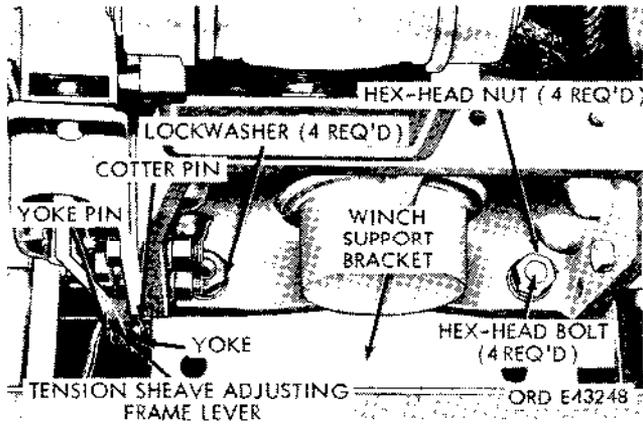
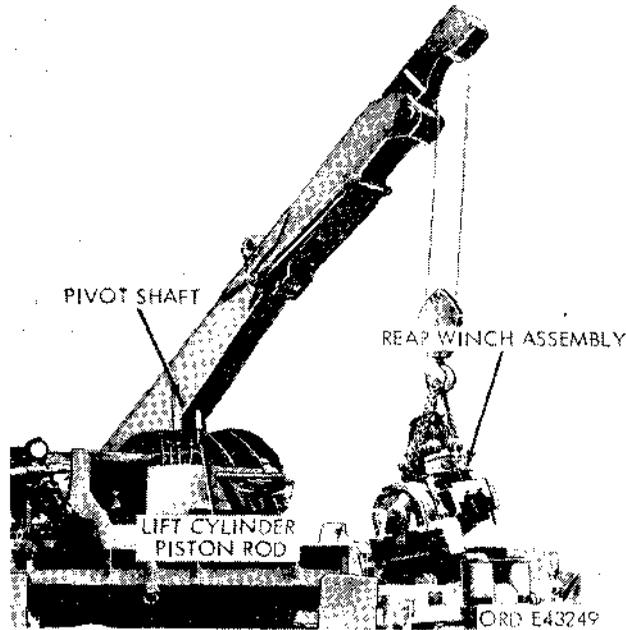

Figure 2-269. Rear winch—top view of right end.
Figure 2-271. Using crane to remove rear winch assembly.
(g) Remove cotter pin and yoke pin securing air chamber push rod yoke to lower end of tension sheave adjusting-frame lever, and remove yoke from lever (fig. 2-269).
(b) Remove the cotter pin and yoke pin securing the front control rod yoke to the winch output shifter shaft arm, and remove the control rod yoke from the arm (fig. 2-271).
(1) Remove the cotter pin (fig. 2-269) and the yoke pin securing the air chamber push rod yoke to the lower end of the tension sheave adjusting-frame lever. Remove the yoke from the lever.
(2) Remove the two capscrews and safety nuts
securing the floor plate (fig. 2-269) to the support bracket bolted to the rear of the winch.
(3) Remove the drive chain (para 2-325).
(4) Remove the four hexagon-head bolts (fig. 2-269), nuts, and lockwashers securing the winch to the left and right support brackets.
(5) Remove the chain and hook assembly from the winch cable.
(6) Using the wrecker crane (fig. 2-271) or other overhead hoisting equipment, remove the rear winch from the vehicle.
(2) Secure the winch to the support brackets with four hexagon-head bolts (fig. 2-269), lockwashers, and nuts.
(6) Position the air chamber push rod yoke on the lower end of the tension sheave adjusting-frame lever (fig. 2-269), and secure it with the yoke pin and cotter pin.